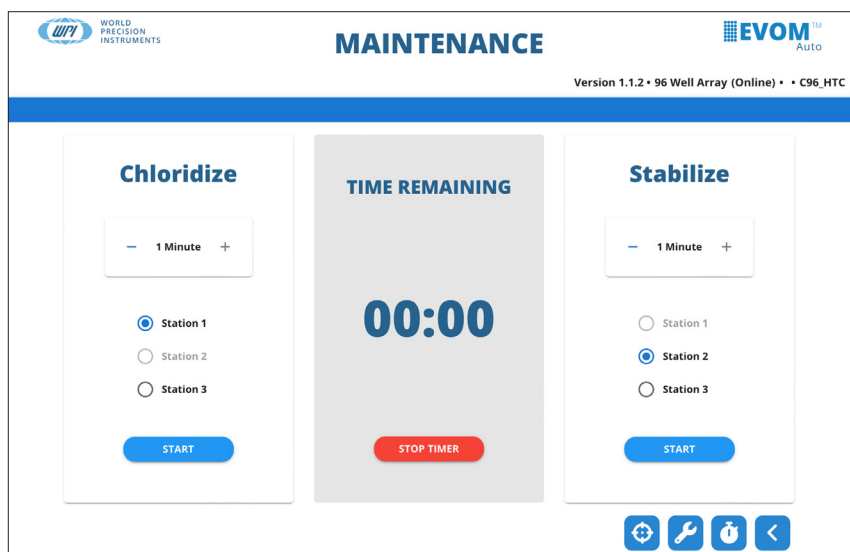

Fig. 69—The Maintenance window.
1. Select *Maintenance* on the main menu. The *Maintenance* window appears (Fig. 69).